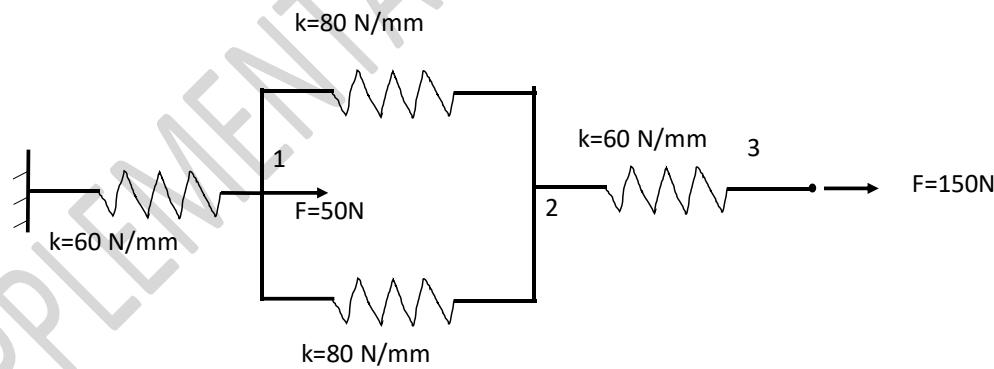

Fig. 1C
c) For the spring shown in Fig. 1c, determine the nodal displacements at points 1, 2 and 3. **10**